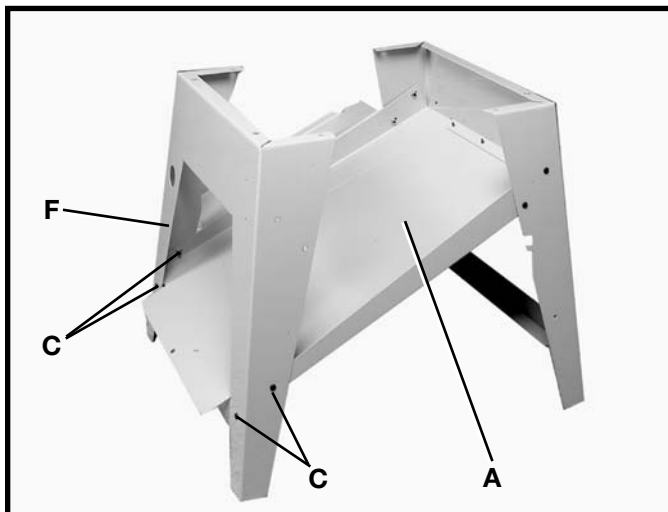

Fig. 10
3. Assemble the other end of dust chute and support panel (A) Fig. 10, to rear stand panel (F) as shown with four #10-32 x 1/2" screws and #10-32 hex nuts, which are shown at (C). **NOTE:** Do not completely tighten stand hardware at this time.